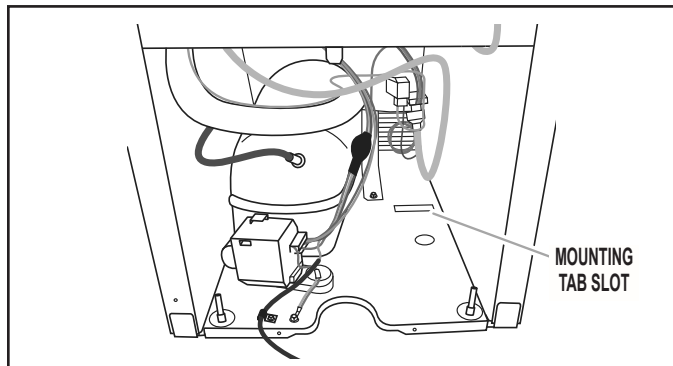

FIGURE 6
6. Slide drain pump into the ice maker base on the right side. The pump mounting tab should slip into the rectangular slot in the ice maker base. It will be necessary to tip the pump slightly to slip into the slot. Figure 6 shows the mounting tab that must slip into the slot.